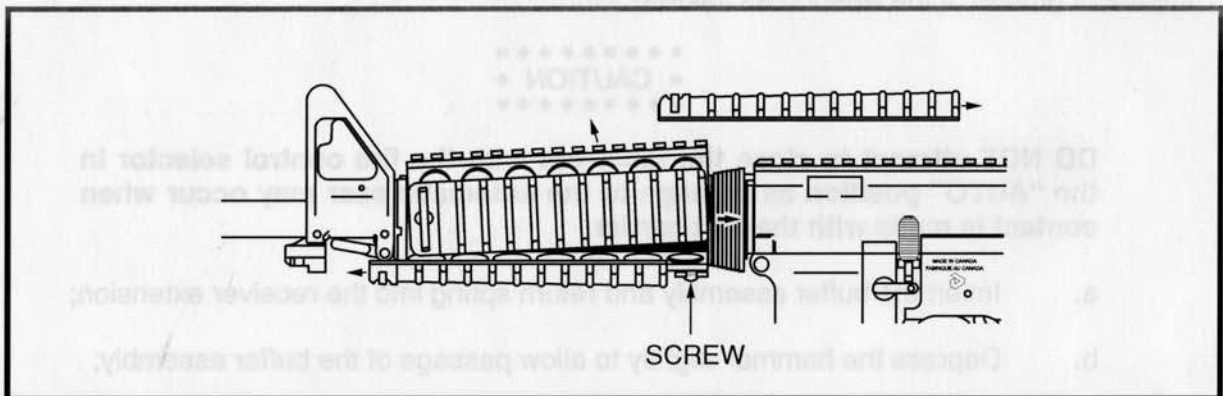

Figure 3-2-9 Removing the Rail Adapter System (RAS)
- (1) Depress the retaining spring and slide the bottom hand protector forward far enough to access the clamp screw at the rear of the lower RAS segment, then loosen the screw;
- (2) Depress the retaining spring and slide the top hand protector rearward, over the upper receiver sight rail, and off of the upper RAS segment, then loosen the screw;
- (3) Support the upper receiver and barrel group vertically on a work bench with the compensator pointing upward; and
- (4) Pull downward on the handguard slip ring and pull the rear end of the RAS segments outward and down to disengage each one in turn from the handguard cap. See Figure 3-2-9.